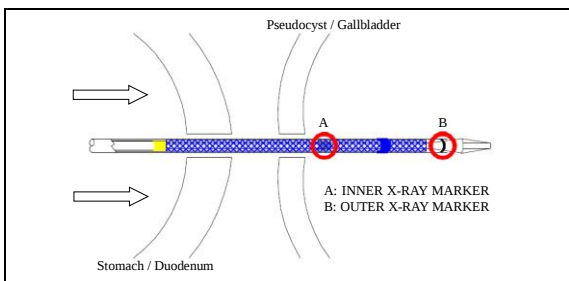

Figure 3
- Under the fluoroscope and endoscopic guidance, position the Electrocautery Stent Delivery System [HDS-10]. Inner X-ray marker (‘A’ of Figure 3) should pass through the wall of a pseudocyst or gallbladder.